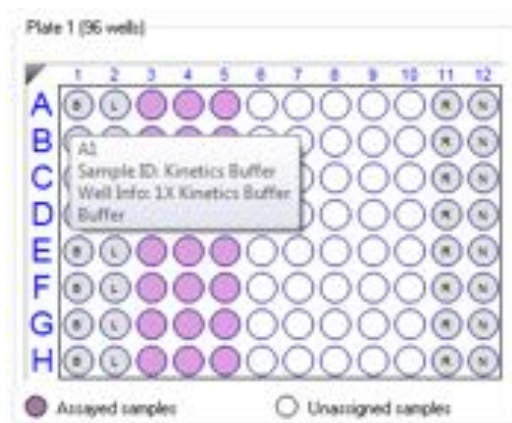

Figure 8-29: Tool Tip of Well Information
2. In the **Sample Plate Map**, double-click the set of wells associated with the selected step type. For information about sample plate wells, mouse over a well to view a tool tip (see Figure 8-29).